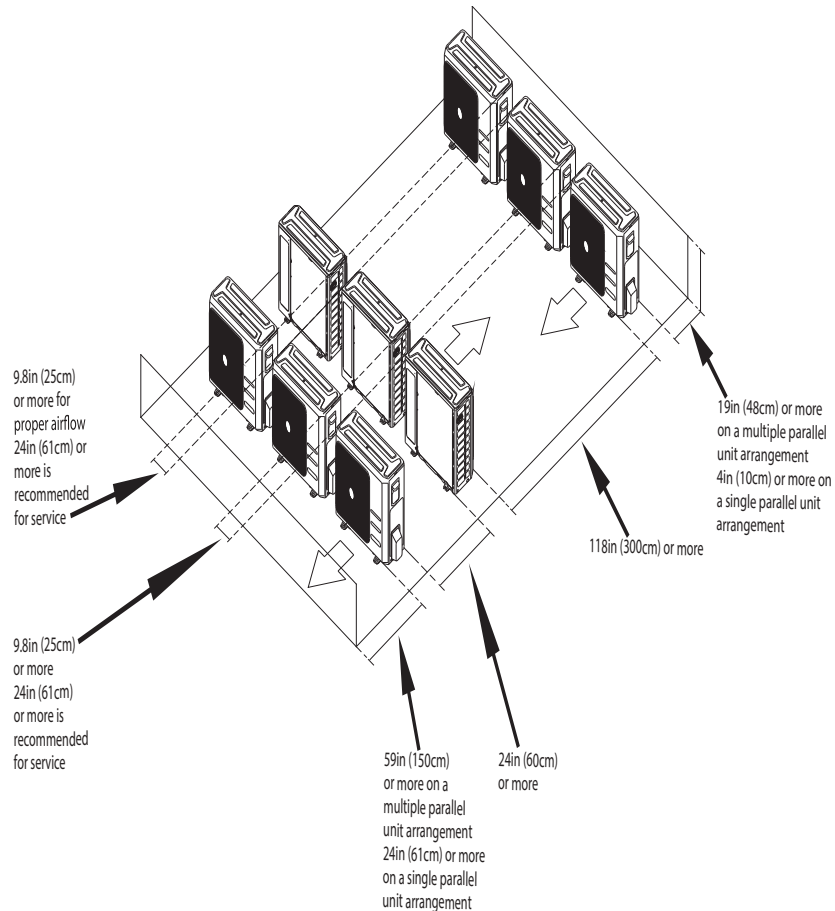

Fig. 6 —Clearances for multiple units
2. Cut the pipe, with a pipe cutter, at 90° (see Fig. 6).